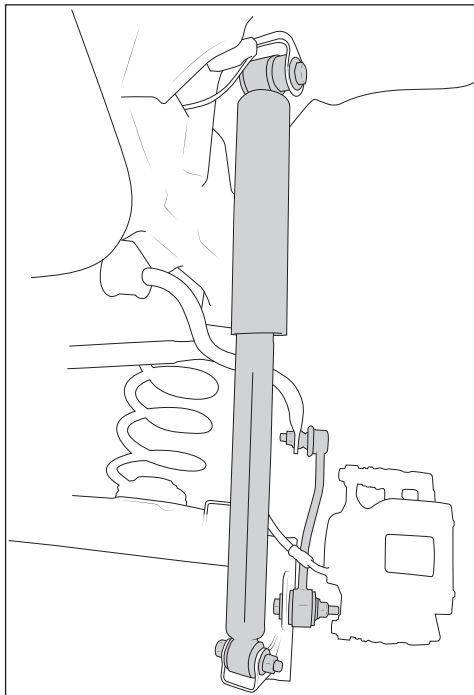
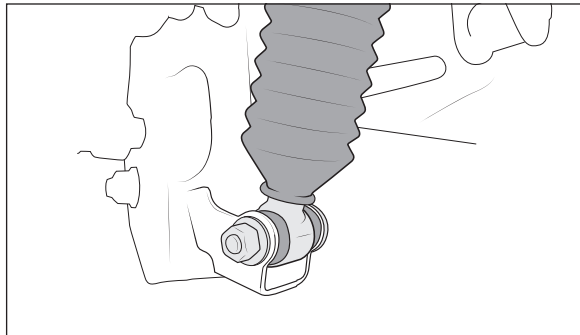

Figure 2
Figure 10
2. Remove the shocks and save hardware (Fig. 2).
4. Remove the sway bar end links and save mounting hardware. End links will not be reused. Note the orientation of the end links, the new end links will be installed in the same way (see Fig. 2).
12. Re-install lower shock nut and bolt and tighten* (Fig 10). Install AEV sway bar end links (the longer of the 2 versions supplied in the kit) using factory hardware and tighten* (see Fig 2).